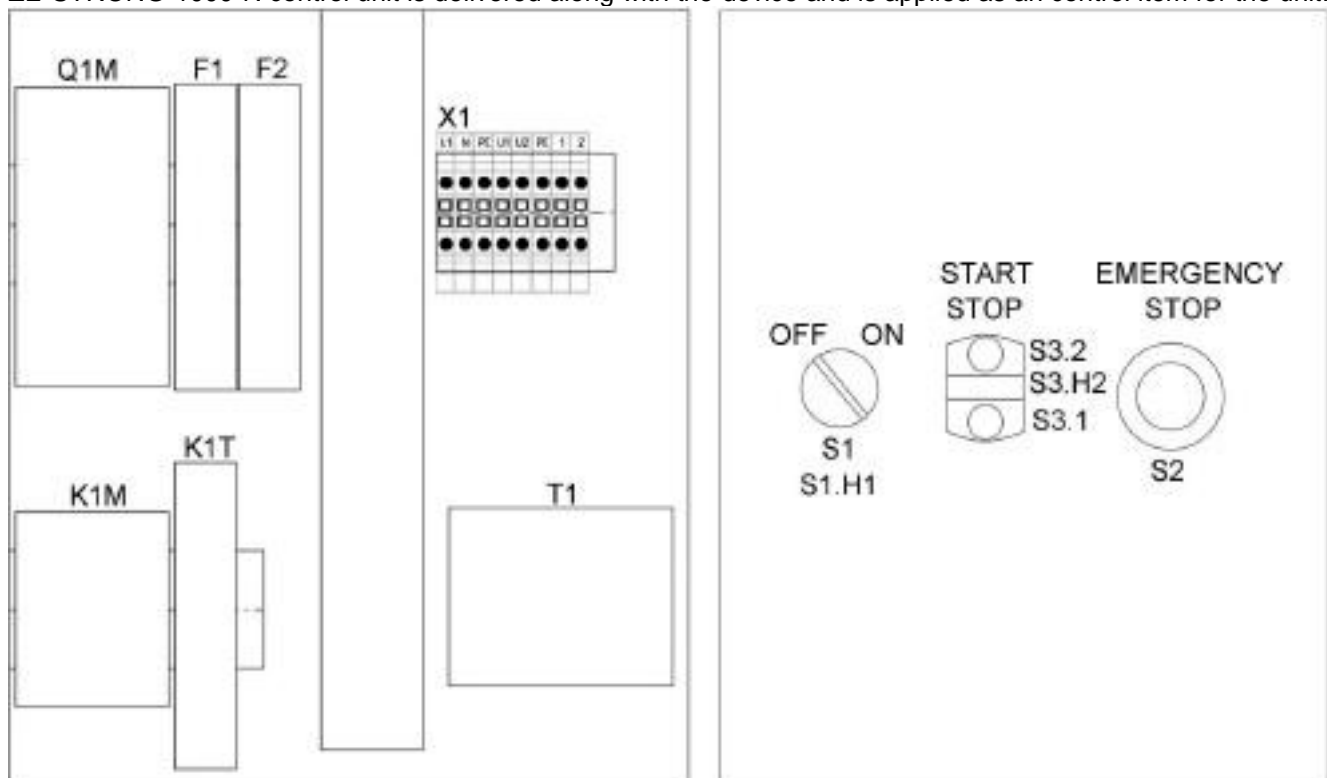

Fig. No.5 – ZE-STRONG-1000-N – Control unit
3. Switch on the motor protective switch **Q1M** inside the control unit (see Fig. No.5).